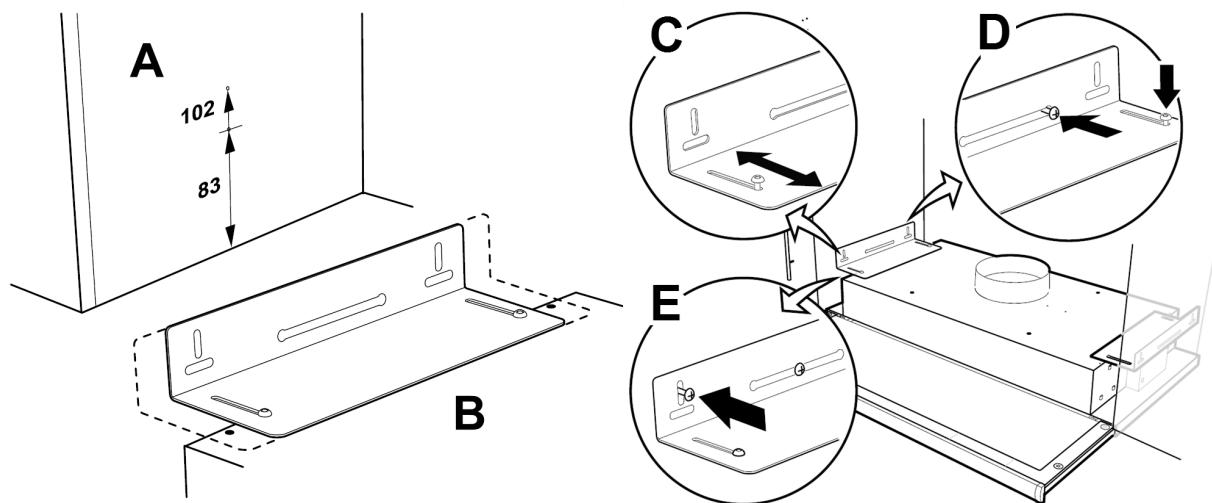

Fig. 14 Installation using brackets
Mark out and fasten screws so that they protrude a few millimetres from both cupboard sides (figure 14, pos. A). If it is intended to align the underside of the cooker hood with the underside of the row of cupboards, use the upper measurement 102; see figure 14, pos. A. The cooker hood brackets are adjustable to fit various cupboard depths (figure 14, pos. B).
2. Move the cooker hood brackets without fully tightening the screws and adjust the brackets so that they fit the sides of the cupboards (figure 14, pos. C). Hang the cooker hood in the pre-installed screws in the side of the cupboard.
Tighten the screws in the bracket and on the wall (figure 14, pos. D). Lock the brackets into position using the locking screws (figure 14, pos. E).